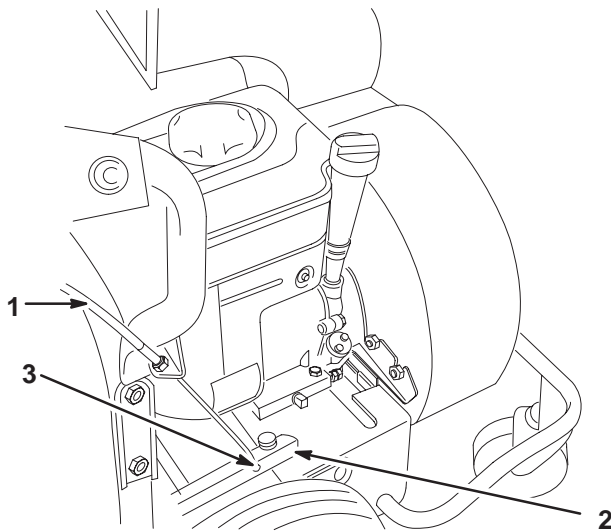

Figure 4
- Hook the lower end (ball end) of the traction control wire in the keyhole slot in the arm on the traction drive guard (Fig. 4).
- Secure the ball in the keyhole slot with a bolt and nut (Fig. 4).